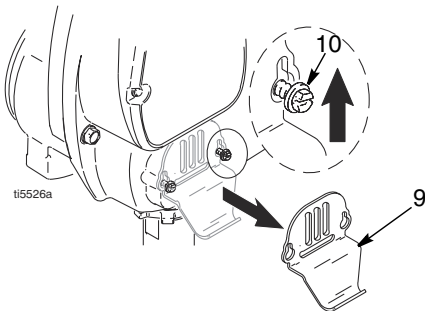

FIG. 14
4. FIG. 14. Loosen two screws (10) and remove pail hook (9).